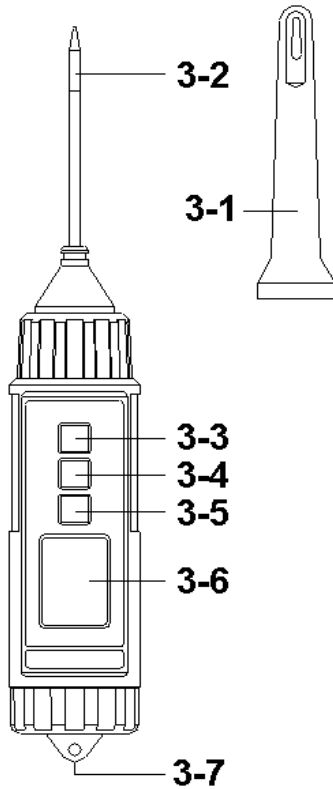
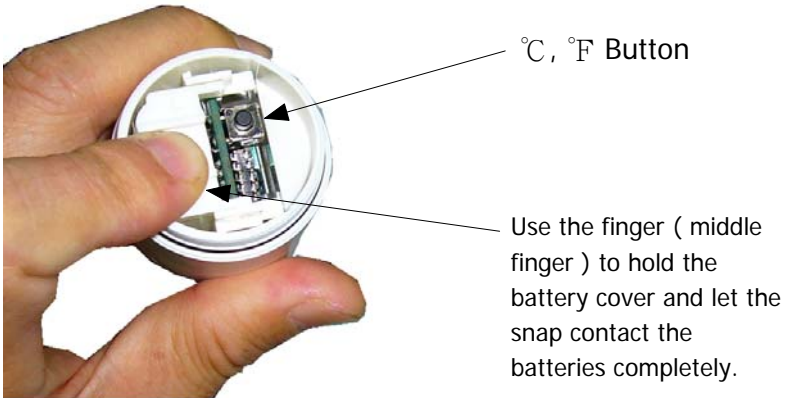

Fig. 1
Fig. 3
" Temp. Probe Sensing Head " (3-2, Fig. 1) is packed separately with the main meter's body.
1) Turn on the meter by pressing the " Power Button " (3-3, Fig. 1) momentarily.
** Press the " Power Button " (3-3, Fig. 1) momentarily again will turn off the meter.*
2) Insert the " Temp. Probe Sensing Head " (3-2, Fig. 1) into the material that intend to measure the temperature. The " Display " (3-6, Fig. 1) will show the temperature value that sensing from the probe's head.
** The max. measuring operation temperature of the " Temp. Probe Sensing Head " (3-2, Fig. 1) is 230 °C, please do not measure the Temp. value over it.*
** After finish the measurement, install the " Temp. Probe Cover " (3-1, Fig. 1) into the " Temp. Probe Sensing Head " (3-2, Fig. 1).*
1) During the measurement, press the " Hold Button " (3-4, Fig. 1) momentarily to hold the measured value. The LCD will show a " HOLD " symbol.
During the measurement, press the " Display Reverse Button " (3-5, Fig. 1) once will reverse the display direction for the user convenience.
- 1) Refer to Fig. 3 , open the " Battery Cover " (3-7, Fig. 1), use the finger (middle finger) to hold the battery cover and let the snap contact the batteries completely.
- 2) Turn on the meter by pressing the " Power Button " (3-3, Fig. 1) momentarily.
Press the " °C, °F Button " (Fig. 3) momentarily will switch the Temp. unit from " °C to °F " or " °F to °C " .
- 3) After the Temp. unit is selected, then release the finger from the battery snap and install the " Battery Cover " (3-7, Fig. 1) again..
- * To change the batteries, open (rotate clockwise direction) the " Battery Cover " (3-7, Fig. 1).
- * Make sure the " Battery cover " (3-7, Fig 1) is secured after changing the batteries.